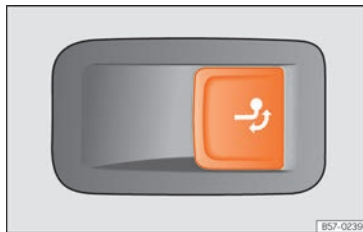

Fig. 301 On the right side of the luggage compartment: button for unlocking the tow hook.
- Pull the »» Fig. 301 button briefly. The tow hook unlocks electrically and automatically turns outwards. The button's control lamp flashes.
- Pull the **»» Fig. 301** button briefly. The tow hook unlocks electrically.
- If the warning light on the button **»» Fig. 301** → *flashes*, this means that the tow hook has not been attached properly or is damaged **»» ⚠**.
- If the warning lamp **»» Fig. 301** → *remains on* with the rear lid open, the tow hook is correctly in place both when extracted and when covered.
- Never press the **»» Fig. 301** button when there is a trailer hooked to the vehicle or when a carrier system or other accessories are mounted on the tow hook.